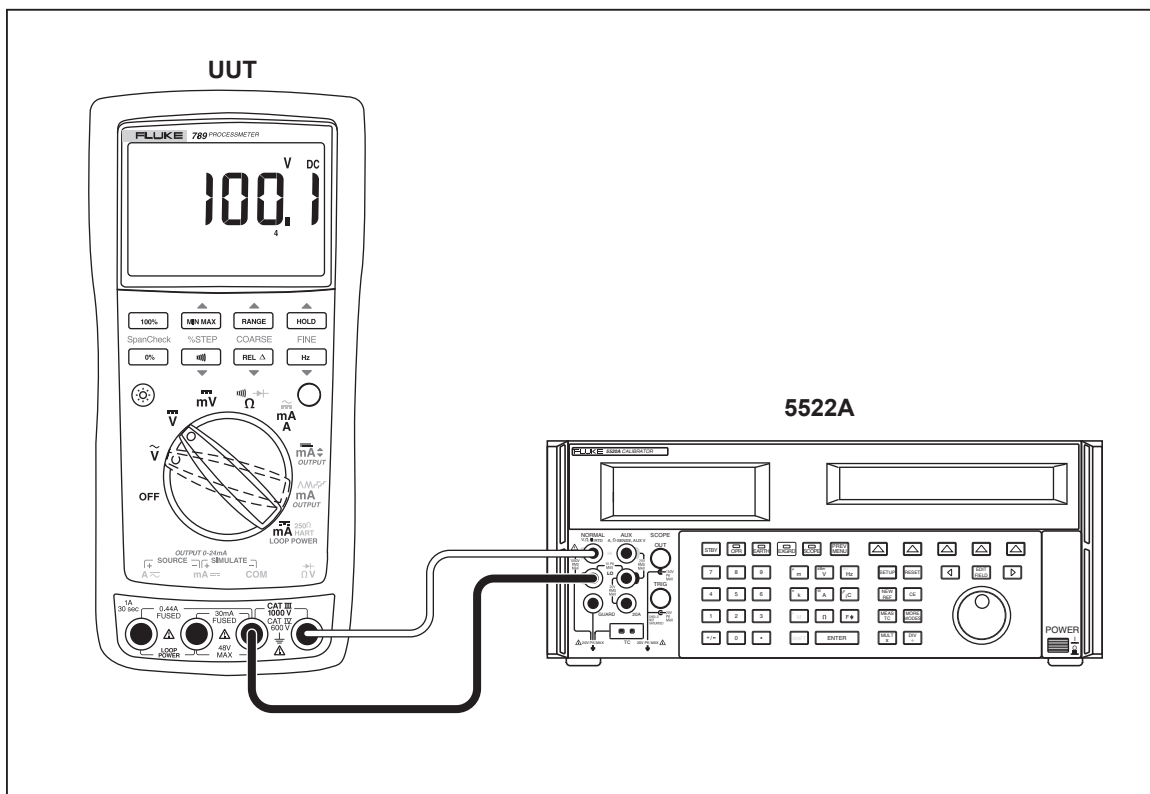

Figure 9. AC/DC Voltage Measurement Test Connections
3. Connect the calibrator to the **COM** and \bar{V} terminals on the UUT as shown in Figure 9.
3. Connect the calibrator to the **COM** and ΩV terminals on the UUT as shown in Figure 9.